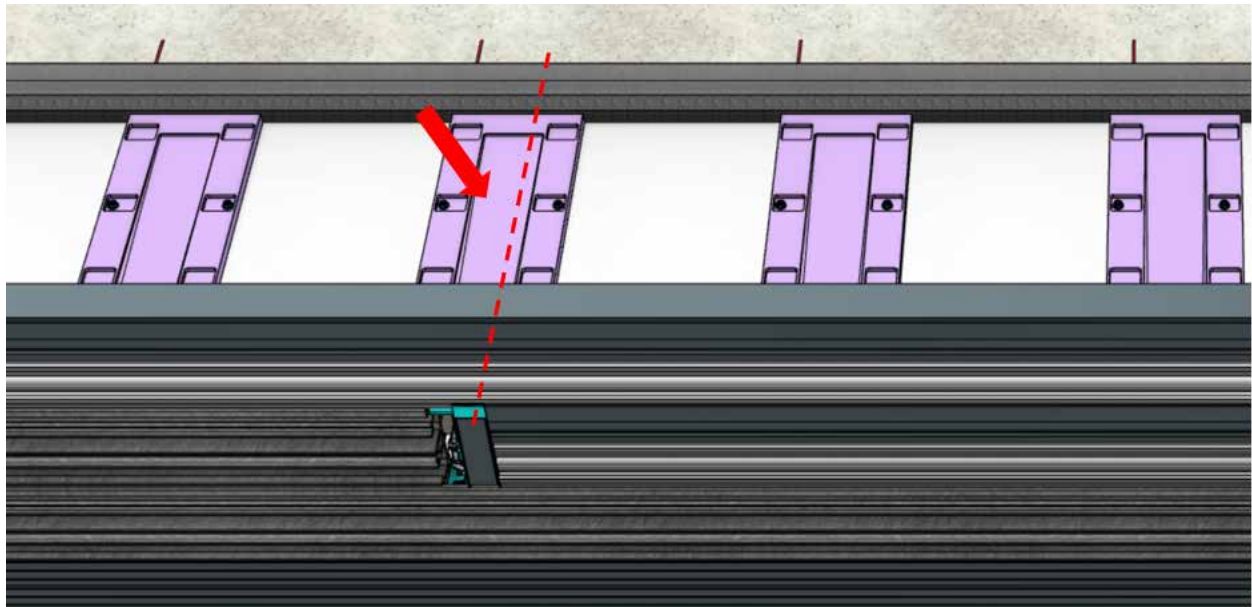

Fig 19
- With the frame laying next to the Rough opening, identify the Drainage Shims that the Transverse Drains will be sitting directly on top of (Fig. 19).